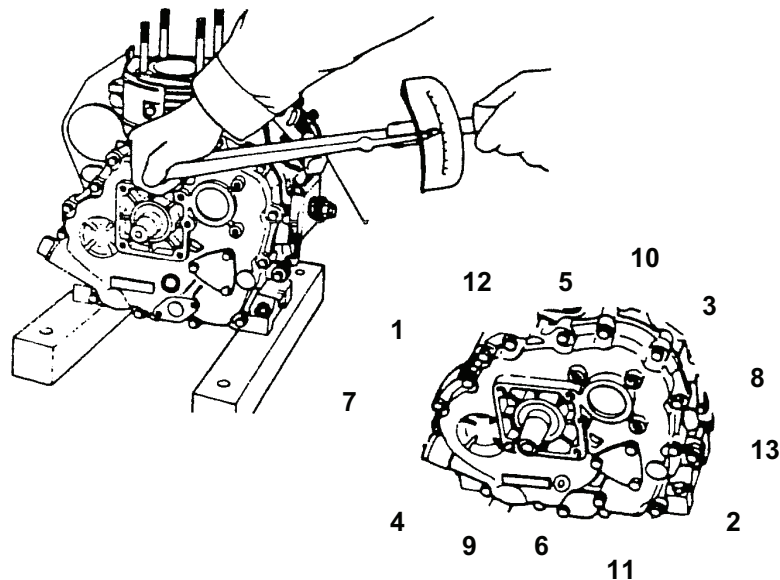

Figure 3. Tightening Crankcase Cover.
5. Tighten bolts in diagonal sequence. See Figure 3.